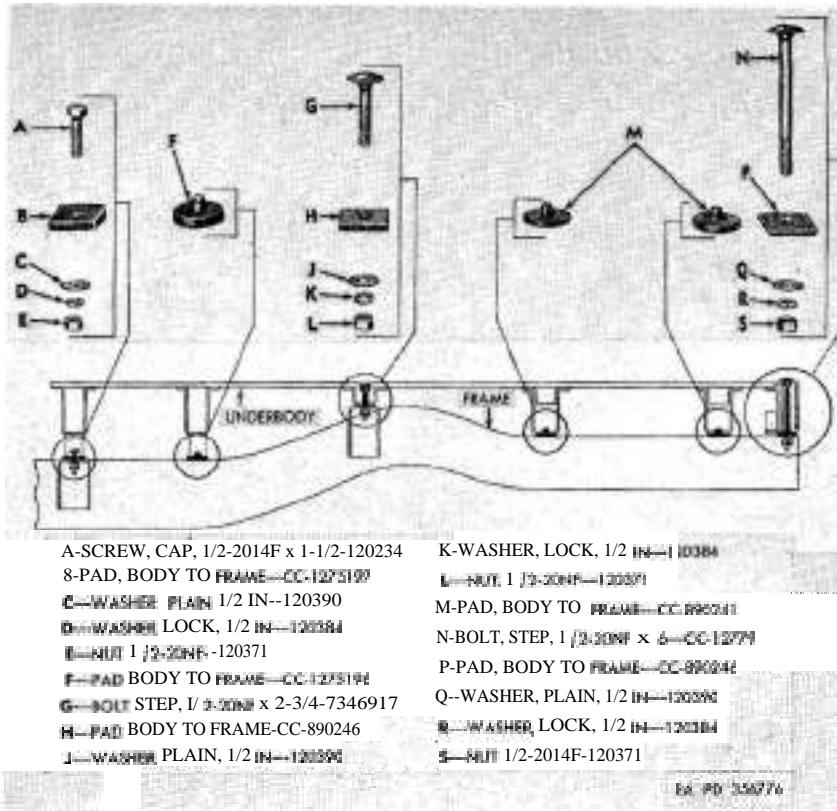

Figure 41. Cargo and command body hold-down bolt, cap screw, and pad locations.
a. *Install Cargo and Command Bodies (fig. 41).*
- (1) Insert two $1/2$ -20NF x 6 step bolts (N) in rear holes in underbody, two $1/2$ -20NF x 23/4 step bolts (G) in center holes, and two $1/2$ -20NF x 11 $\frac{1}{2}$ cap screws (A) in the front bracket holes. Attach body-to-frame pads (B, F, H, M, and P) to body support brackets with plastic-type gasket cement.